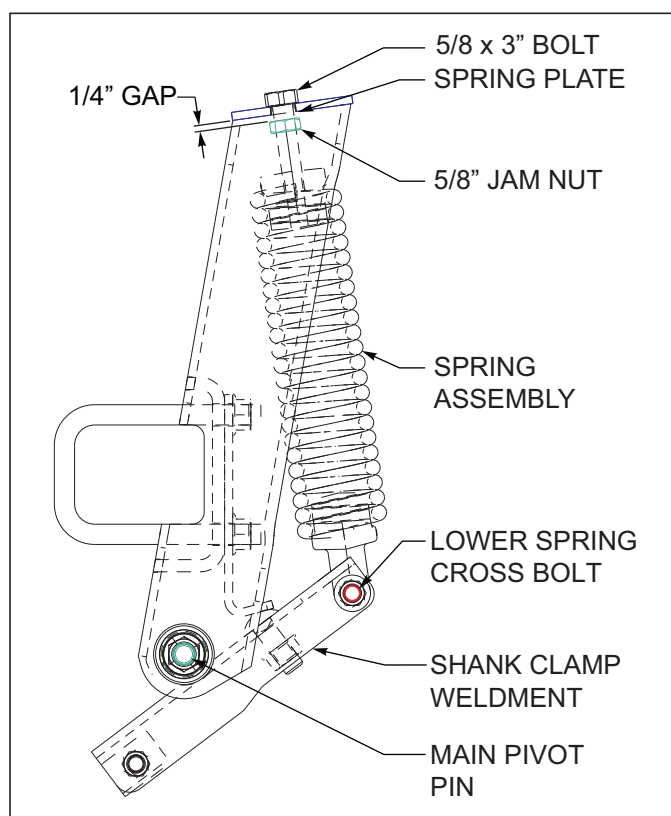

Figure 4-1: Spring Adjustment
3. When adjusting/assembling the spring assembly, tighten the upper spring bolt, but leave approximately 1/4" gap above the spring jam nut *See Figure 4-1*. This will leave the proper clearance for the spring to pivot. Lock the jam nut against the top of the spring, not the top of the mount. Likewise do not over tighten the lower spring cross bolt. Remove any slack in the bolt, but still allow the lower spring to pivot freely.